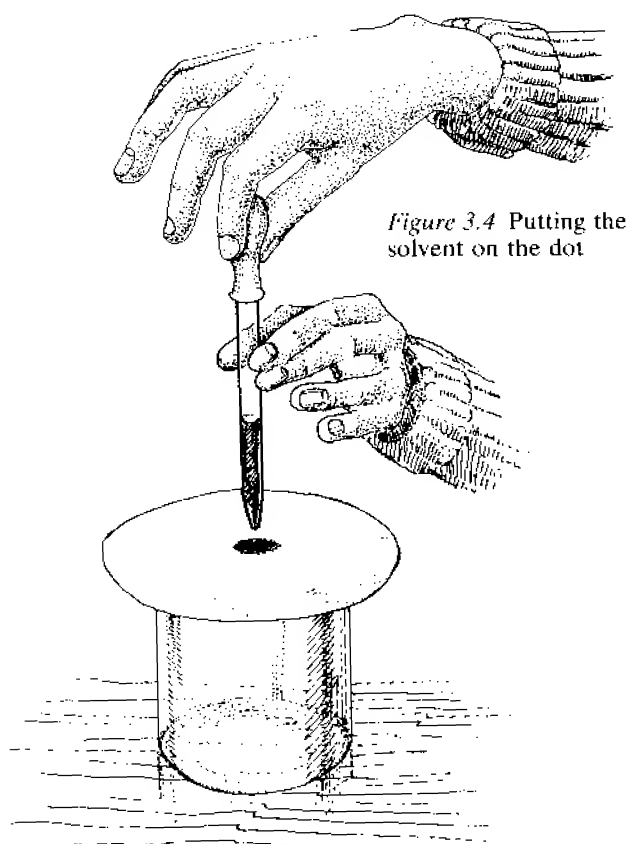

Figure 3.4 Putting the solvent on the dot
5. Make a large dot about 10 mm in diameter in the centre of a circle of filter paper. Rest the paper on top of a beaker. Using a teat pipette, put one drop of a suitable solvent in the centre of the dot (see Figure 3.4).